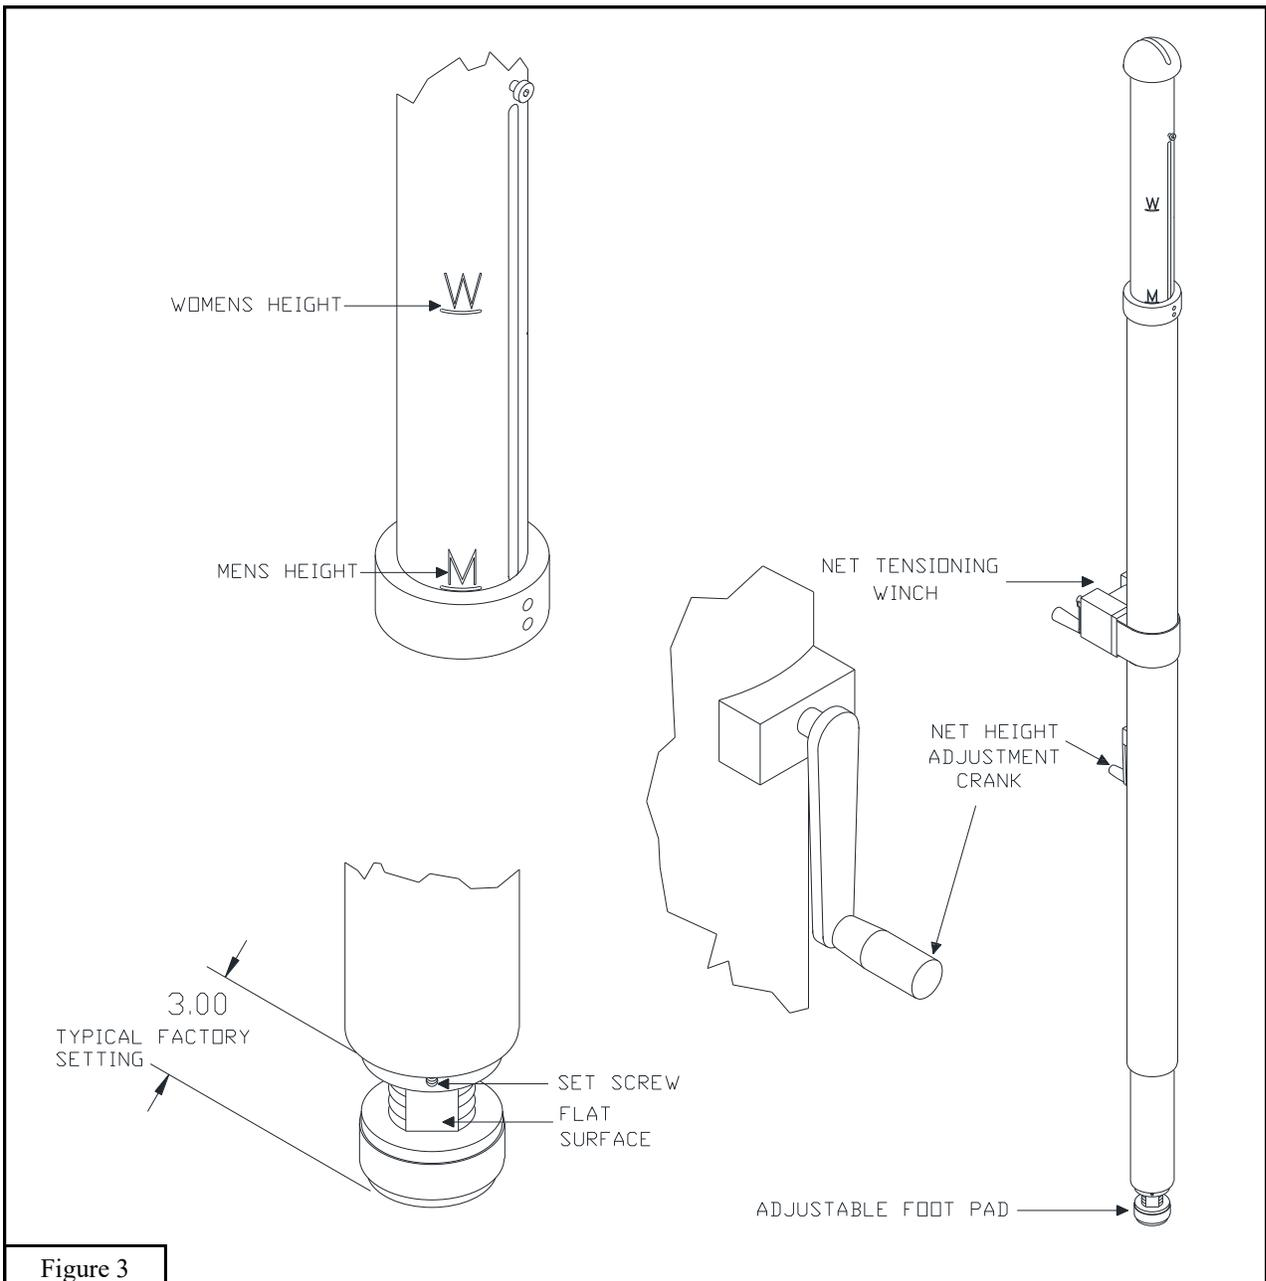
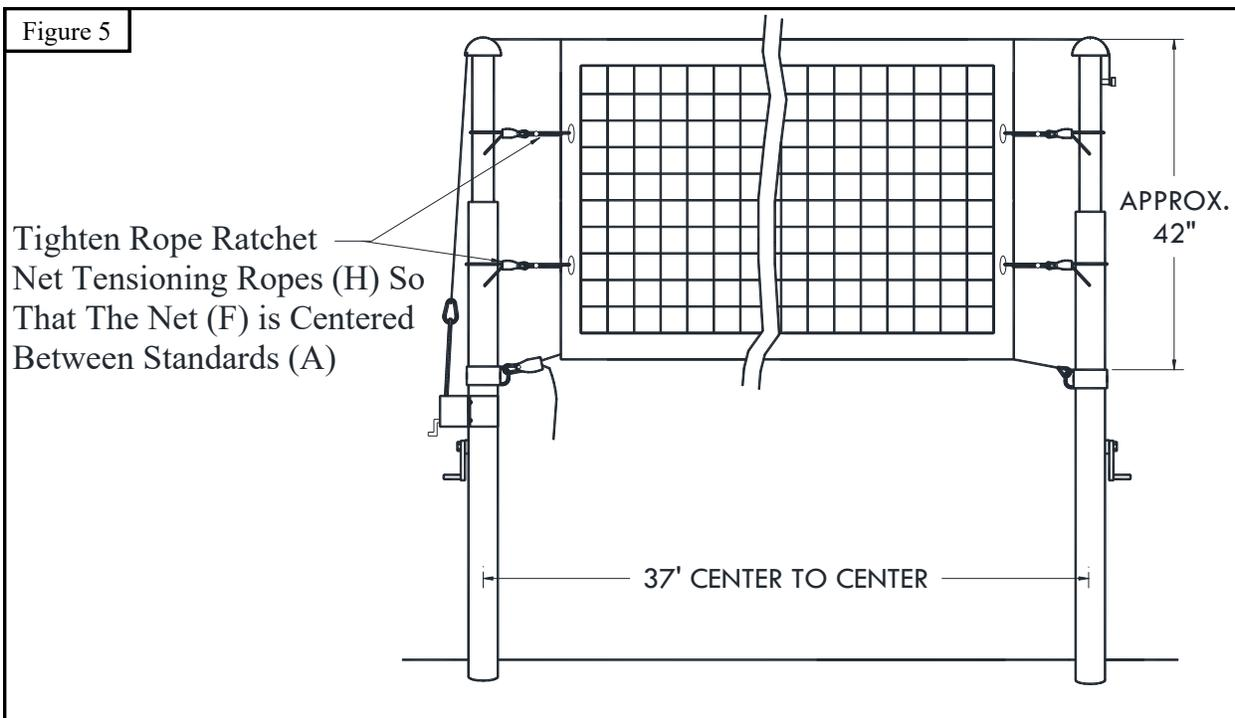

Figure 3
Figure 5
1. Install *Standards* (A) into floor sockets. Use the net height adjustment crank to extend inner pole to either the W (women’s), M (men’s) or J (junior) line. The machined line should be above but touching the collar. If your sockets are 3 1/2” or 4” request free floor socket adapters from manufacturer. See Figure 3.
6. Run *Rope Ratchet Net Tensioning Ropes* (H) through button holes on both sides of net and around the *Standards* (A). Tighten all rope ratchets so that net is in the center of the poles and is pulled tight to the left and right. Adjust winch and rope ratchet tension until the net is at desired tension for play. See Figure 5.
7. Measure from the top center of *Net* (F) to the floor. Official Men's height is 7' 11 5/8", Women's, 7' 4 1/8" and Junior's 7'. If this measurement is above or below the official height write it down and proceed to instruction #8 to make minor one time adjustments to the adjustable foot.
8. Remove *Net* (F) from poles.
9. Remove *Standards* (A) from floor sockets and lay on floor. Measure the distance from the bottom of the pole to the bottom of the adjustable foot pad, write it down. Loosen set screw in the collar of the bottom adjustable foot with the 1/8" *Allen Wrench* (K). Turning the adjustable foot clockwise will lower net height, counter-clockwise will raise net height. Each revolution of the adjustable foot will raise or lower pole by approximately 3/16". Make sure you use full revolutions. The set screw must rest on the machined flat on the adjustable foot to eliminate damage to the threads. Check your math to ensure you have moved the adjustable foot in the right direction then tighten set screw. See Figure 3.
2. Adjust *Collar Straps (J)* so that they are 1"-2" below the bottom of the net.
4. Attach *Rope Ratchet Net Tensioning Ropes (H)* around pole and hook ends together, then even net out between poles as in previous instructions and apply desired tension. See Figure 5